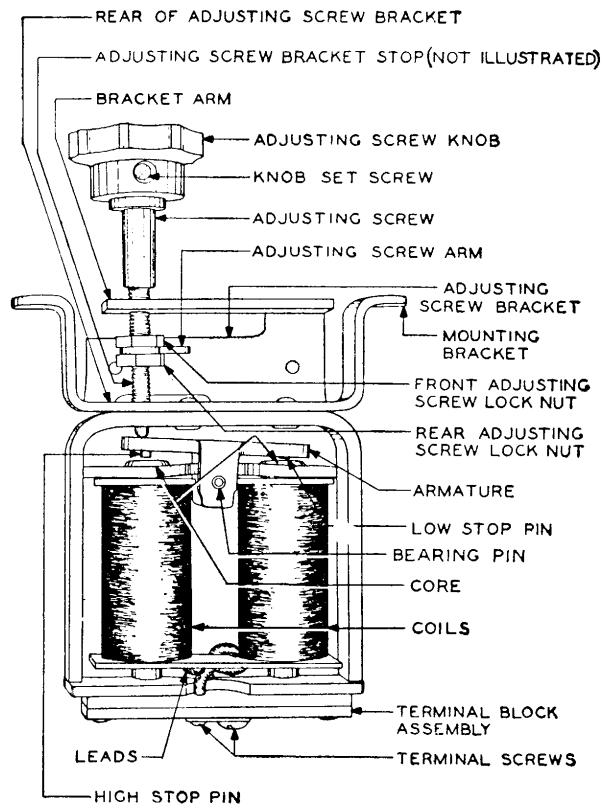

Fig. 1—8-type Buzzer Equipped With an Adjusting Screw Arm
- \*2.04 **Adjusting Screw Torque:** Figs. 1 and 2—The adjusting screw shall be sufficiently tight to insure that it will not be turned inadvertently, but shall not be so tight as to prevent its being turned through the complete range when the knob is turned by hand.
- \*2.05 **Adjusting Screw Arm Position (Buzzers Equipped With an Adjusting Screw Arm):** Fig. 1—With the buzzer held in the position in which it is normally mounted and with the adjusting screw arm resting against the underside of the adjusting screw bracket stop, the clearance between the high stop pin on the armature and the core shall be
- \*2.07 **Tightness of Locknuts:** Figs. 1 and 2